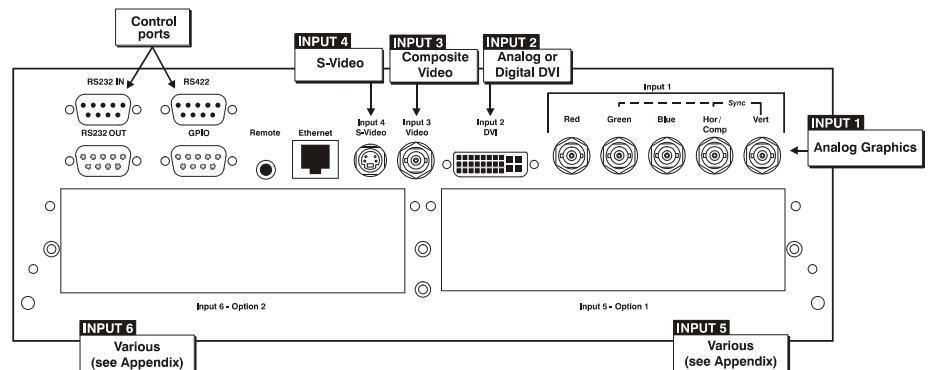

Figure 1.1
- There are two different types of Input face plate configurations (model dependant). Refer to **Figure 1.1 & 1.2**. These configurations may include the following inputs:
For simplicity, this manual refers to the configuration in **Figure 1.1** only.